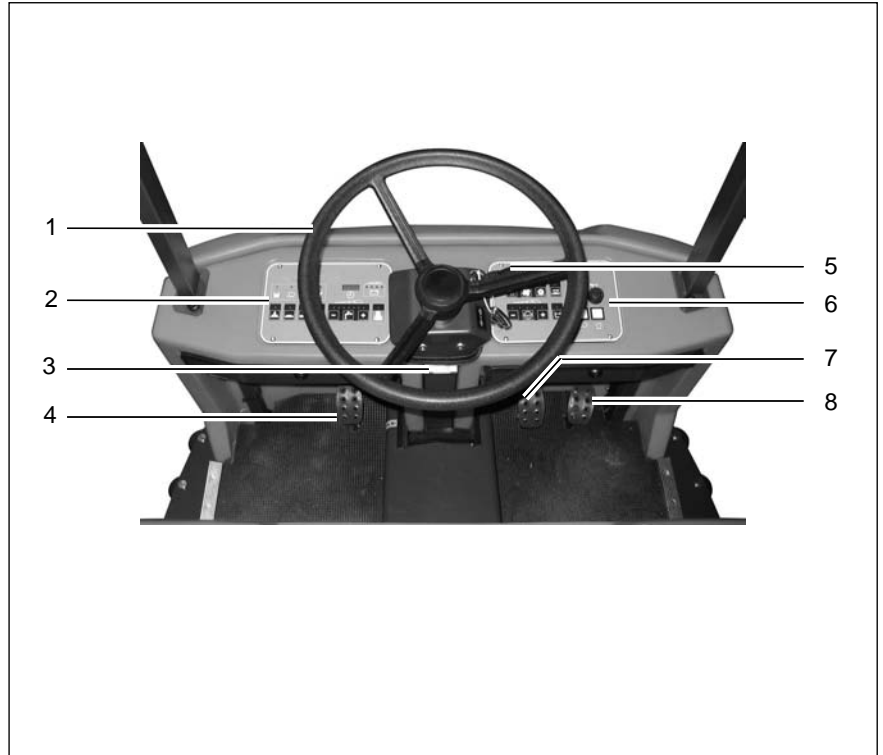
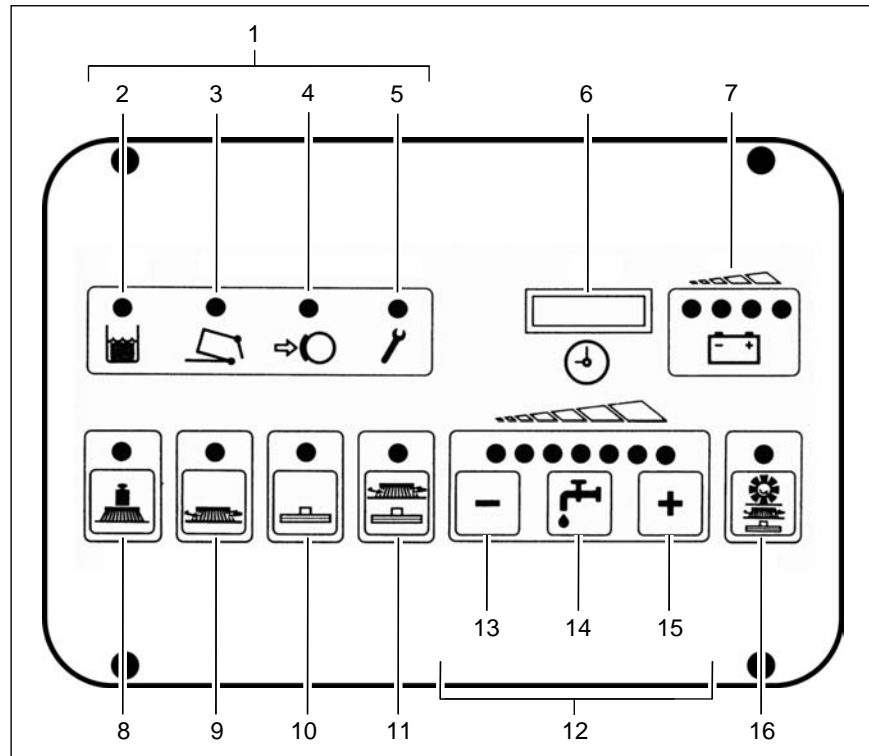

Fig. 20
Fig. 21
fresh water supply“ (Fig. 21/12).
- Press the squeegee and suction turbine button (Fig. 21/10) to switch the suction turbine on or off.
#### (Fig. 20/1)
#### (Fig. 20/2)
#### (Fig. 20/3)
#### (Fig. 20/4)
- When the parking brake is applied, the corresponding control lamp on the operating panel (Fig. 21/4) lights up red.
Before getting out of the vehicle apply the parking brake, set the driving direction switch (Fig. 20/5) to its neutral position and switch the key switch to off.
#### (Fig. 20/5)
### Right-hand operating panel (Fig. 20/6)
### Service brake (Fig. 20/7)
### Accelerator to drive forwards and backwards (Fig. 20/8)
- Before actuating the accelerator, use the driving direction switch (Fig. 20/5) to set the direction of travel: forwards or reverse.
- To stop securely, apply the service brake (Fig. 20/7).
An acoustic warning signal (buzzer) is issued should the drive motor overload. At the same time, the red alarm lamp (Fig. 20/5) lights up in the left-hand operating panel (Fig. 21/2) and the driving speed is reduced by approx. 50%. In addition, an error code appears in the service indicator (Fig. 21/6).
#### (Fig. 21)
**(Fig. 21/1)** The indicator field enables the scrubber-drier to provide feedback on the operating status of the vehicle. This only relates to operating states which cannot be switched on and off via the operating panel: recovery tank full, dirt hopper for pre-sweep/vacuum unit full, parking brake applied and error message.
**(Fig. 21/2)** The yellow control lamp lights up when the recovery tank has reached its maximum fill level. Also, a "beep" signal is issued every 15 seconds. In this case, a float switch switches the suction turbine off and the squeegee is raised.
**(Fig. 21/3)** The control lamp lights up red when the dirt hopper is not properly inserted (engaged) or the front flap is not properly closed.
**(Fig. 21/4)** The control lamp lights up red when the parking brake has been actuated via the pedal to the left of the steering column. If the traction drive is switched on, an acoustic signal is also issued.
(Fig. 21/5)
At the same time, a four-digit code appears in the display of the service indicator (Fig. 21/6). This error code infers which fault has occurred (refer to Section 3.5.1). At the same time, the control lamps flash and an acoustic signal is issued.
(Fig. 21/6) The four-digit LED serves to display the operating hours.
(Fig. 21/6) The four-digit LED serves for a more accurate determination of function faults. If a
### Battery and charge control indicator (Fig. 21/7)
**Button for brush pressure (Fig. 21/8)** This button is used to increase the brush pressure. This may be necessary when the area to be cleaned is extremely dirty.
**Button for the brush drive (Fig. 21/9)** This button serves to switch the brushes and fresh water supply on and off with simultaneous, respective lowering and
**(Fig. 21/10)** This button serves to switch the suction turbine on and off with simultaneous lowering and
**(Fig. 21/11)** After pressing
**(Fig. 21/12)** The